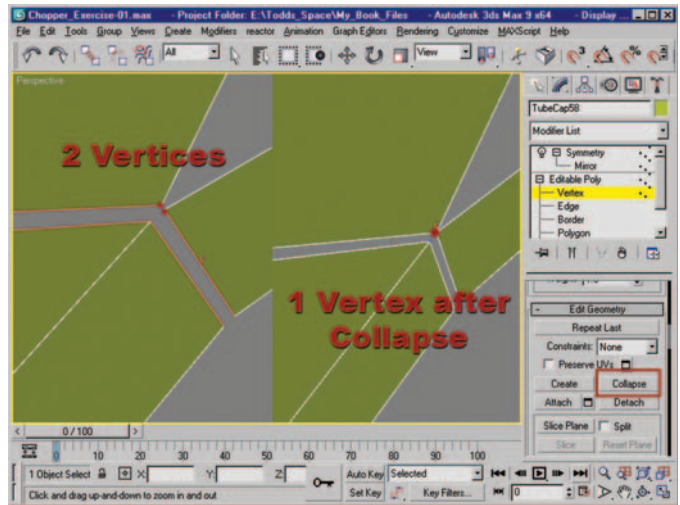

Figure 8.25 Vertex selection before and after using Collapse. The gap has been eliminated in the mesh on the right.
27. The last action created an unwanted “gap” directly above the circular shape we used to start our mesh. The gap needs to be eliminated. Select the vertices seen in Figure 8.25 (left) and use Collapse to remove the gap (Figure 8.25, right).